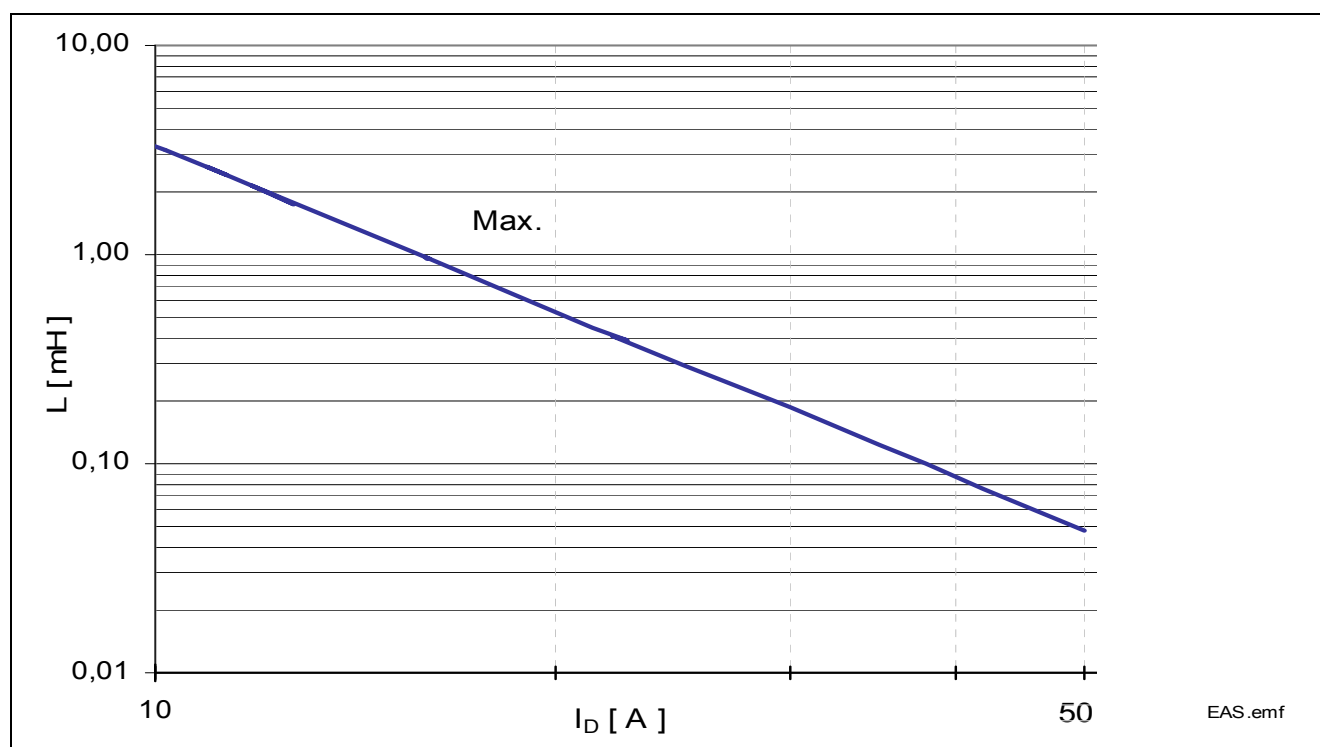

Figure 13 Maximum allowed inductance values for single switch off (EAS) $L=f(I_L, T_{j,start}=150\text{ °C}, V_{bb}=30\text{V}, R_L=0\text{ }\Omega$
6) Refer to **Figure 13** for maximum allowed inductance values
Figure 13 shows the inductance / current combination the BTS3256D can handle.